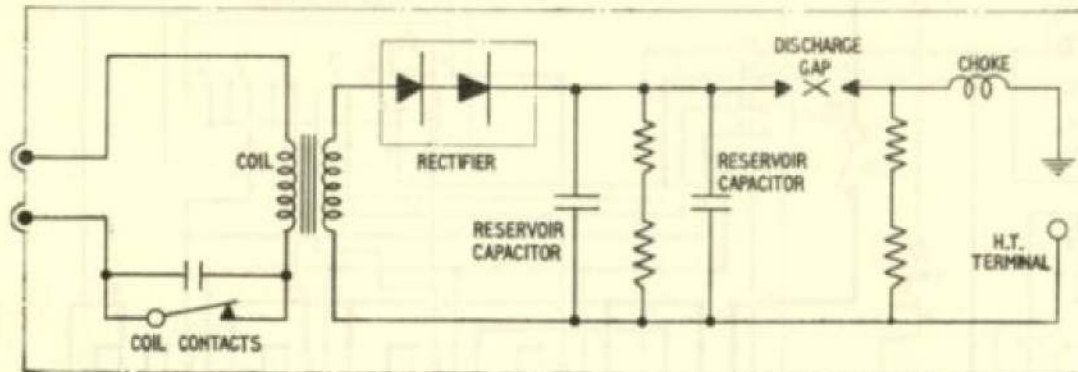

Fig. 2. High energy ignition unit
diagram of the system will be found in fig. 2 and 3. The following modifications are included in this group:—
9. Each high energy ignition unit consists essentially of an induction coil and trembler mechanism, high voltage selenium rectifier, a high capacity reservoir condenser, and a hermetically sealed discharge spark gap. Protective resistors, connected across the output circuit, limit the value to which the reservoir condenser voltage would rise in the event of an open circuit occurring in the high tension circuit. The internal wiring of the ignition unit is illustrated in fig. 2.